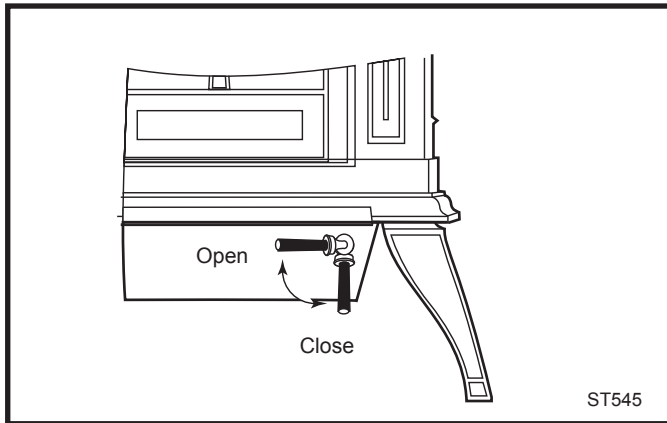

Fig. 40 Turn the ashdoor handle clockwise to open and counterclockwise to close.
- Close the griddle or doors, and unlatch the ash door. (Fig. 40) It will pivot, swinging the ash pan out of the stove.